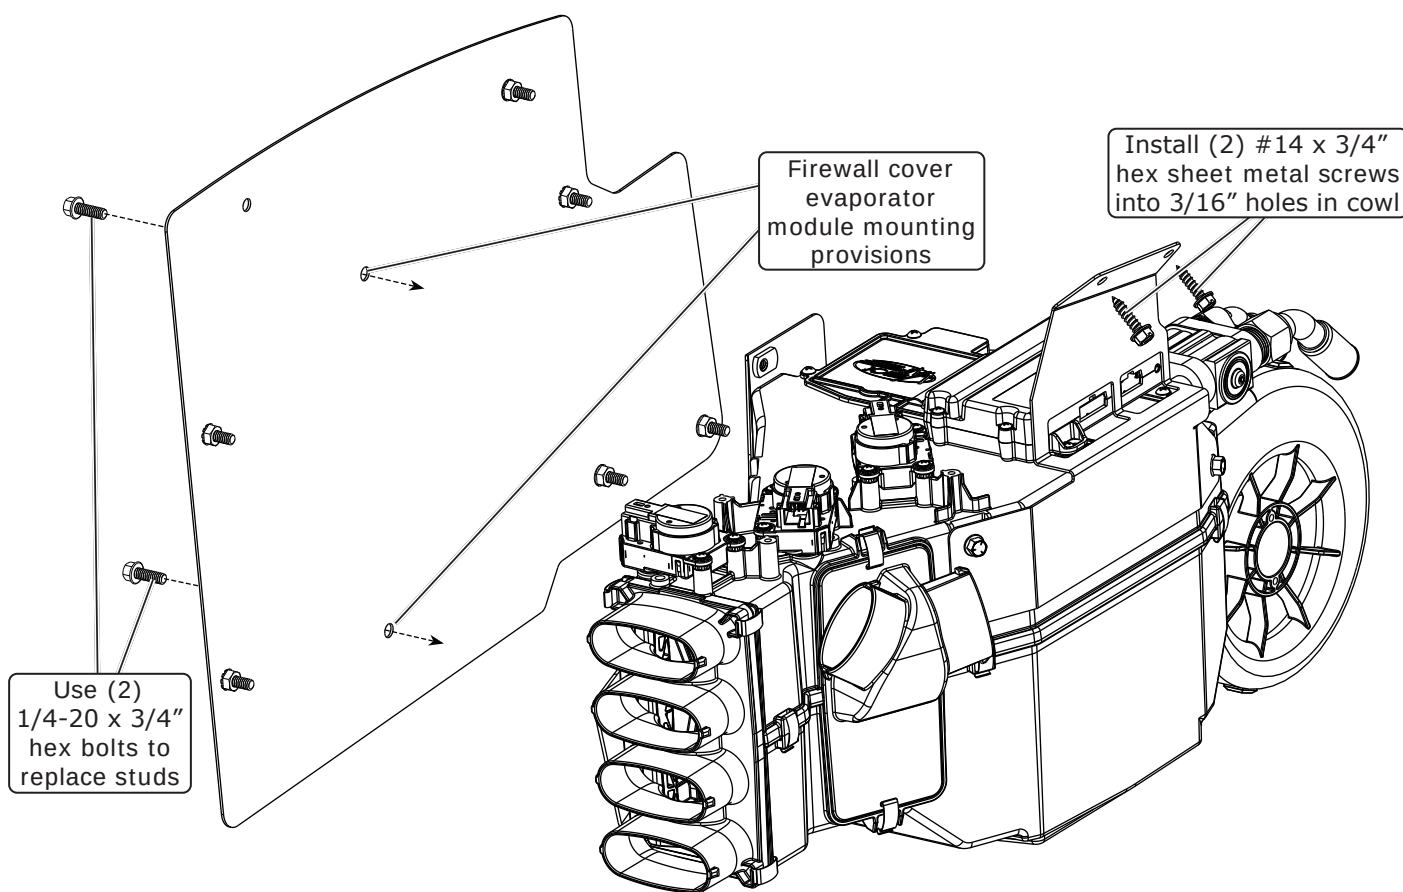

Figure 1
6. Secure the front evaporator mounting bracket to the cowl. Using the bracket as a template, drill (2) 3/16" holes in the cowl. Secure it with (2) #14 x 3/4" hex sheet metal screws as shown in Figure 1, below.
7. Replace the studs in the firewall with (2) 1/4-20 x 3/4" serrated flange hex head bolts.